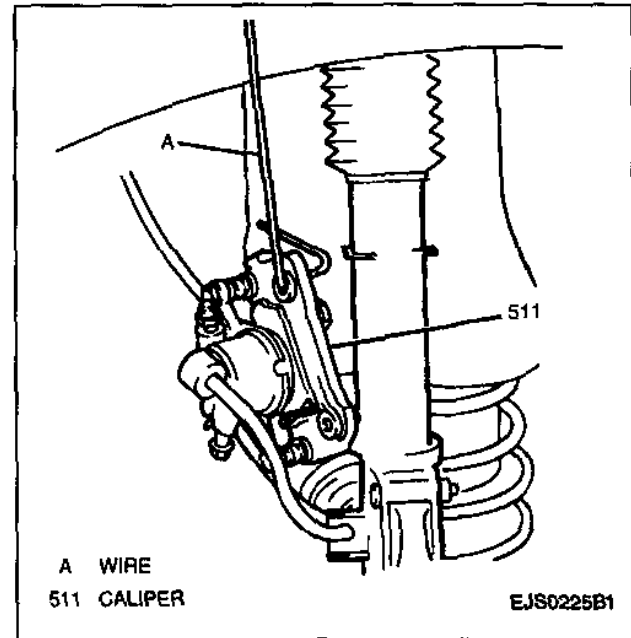

Figure 8—Suspending Caliper
7. Caliper assembly from caliper carrier. Suspend caliper with wire to prevent damage to the brake hose (Figure 8).
8. Suspend caliper/caliper carrier with a wire to prevent damage to the brake hose (Figure 8).